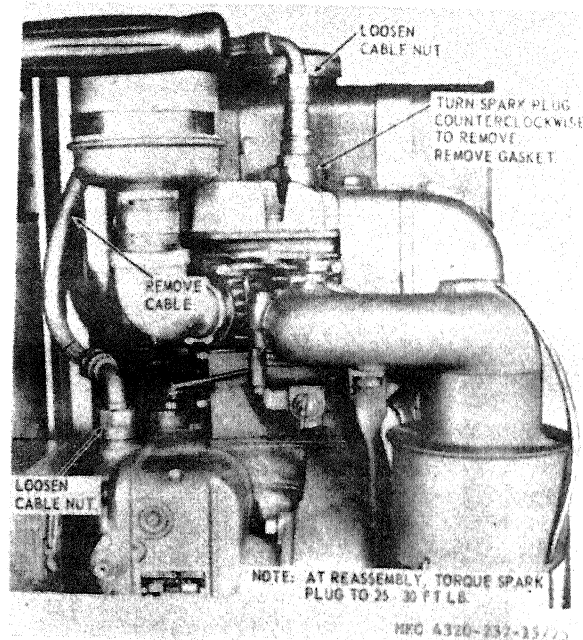

Figure 25. Spark plug and cable, removal and installation.
a. *Removal.* Refer to figure 25 and remove the spark plug and cable.
(1) Clean the spark plug and cable with a cloth dampened with an approved
- (2) Inspect the spark plug cable for cracks, frayed or damaged shielding, worn or damaged connectors, or other damage.
- (3) Inspect the spark plug for cracks, worn or damaged threads, corroded or eroded terminals. If spark plug is in good condition, gap spark plug terminals to 0.030 inch before installation. If new plug is installed, gap it to 0.030 inch.
c. *Installation.* Refer to figure 25 and install the spark plug and cable.